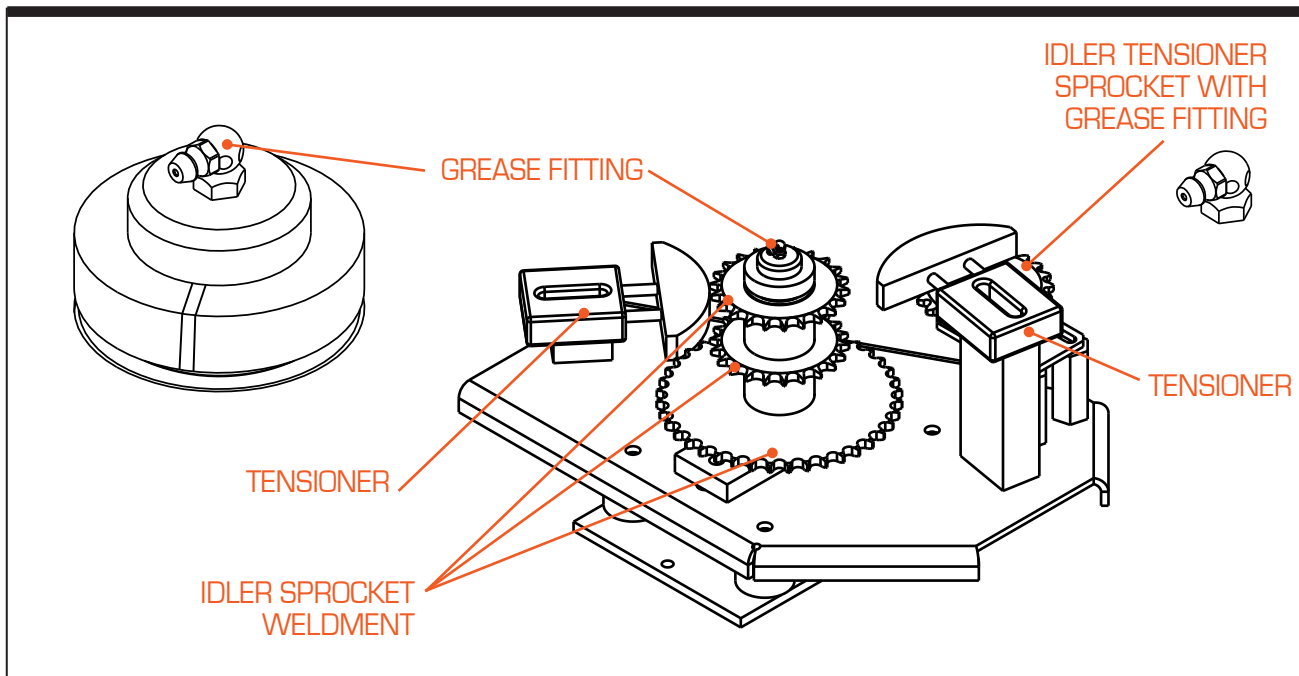
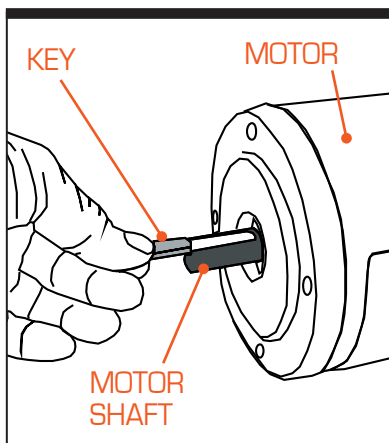

Figure 4-1. Assembled Idler
Figure 5-3. Motor Key/Shaft
It is recommended that you grease the idler assembly (see Figure 4-1), for both metric and ANSI models, every six (6) months after installation. If you must disassemble the idler, please note the order of assembly in Figure 5-3, Chapter 5.
Step 9—Install Motor. Assemble the key to the motor shaft (see Figure 5-3) and coat the shaft with anti-seize compound. Insert the motor shaft into the speed reducer input shaft. Align the shafts accurately; improper alignment can result in failure. Rotate the motor to the correct position and firmly secure to flange with four hex-head cap screws. Do not allow the motor to "hang" unsupported before fully seated in the reducer to avoid damaging the reducer input seal. If the motor does not readily seat itself, check to see if the key has moved.